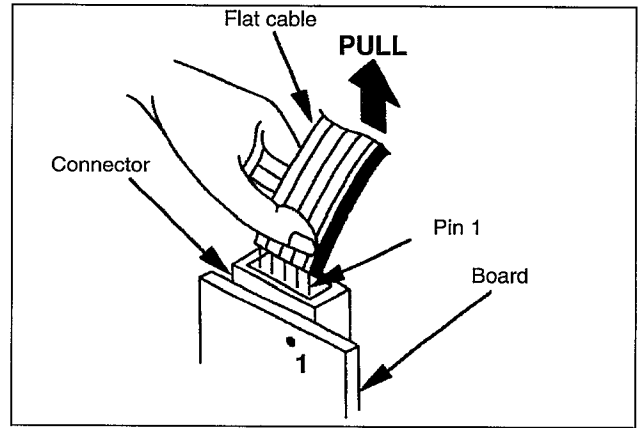

Fig. 2-14
Pull out the flat cable, holding it securely to avoid damaging individual wires (see fig. 2-14).
1. Adjust the position of the flat cable so that the lines on the flat cable align with the pins X of the trap connector (see fig. 2-14).